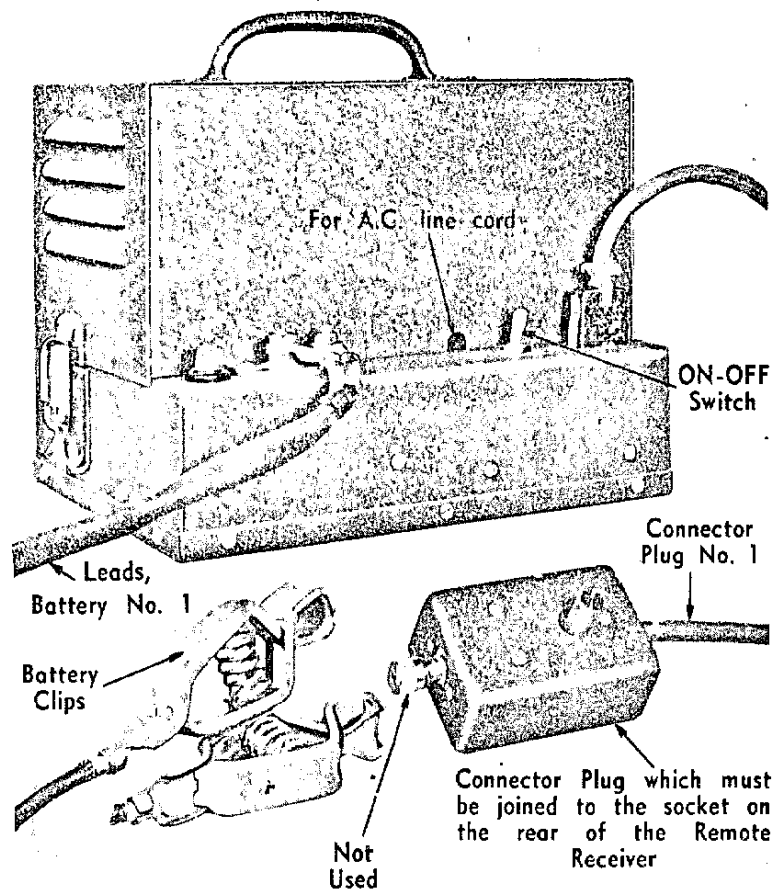

Fig. 30—Supply Unit—ZE12, with
**POWER SUPPLY CONNECTIONS** See figs 30, 31.